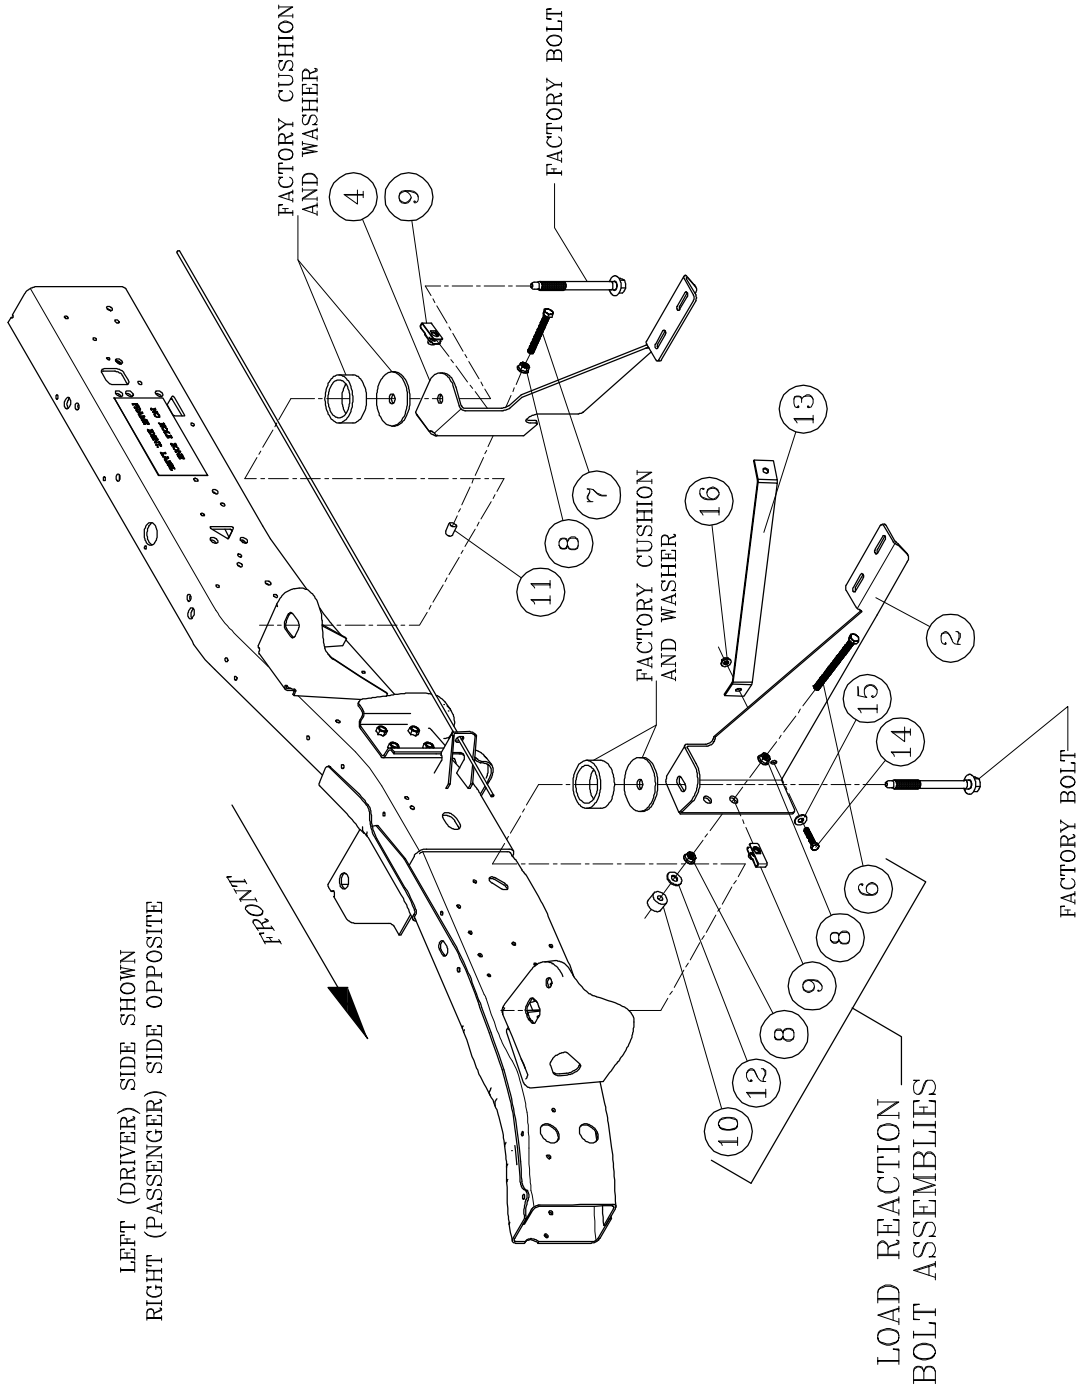

fig.1
4. INSTALL A 3/8"-16 SERRATED FLANGE NUT (ITEM #8) ON THE 3/8"-16 X 5" HEX BOLT (ITEM #6) WITH THE FLANGE FACING TOWARD THE END OF THE BOLT AND TURN ON JUST SHORT OF THE HEAD. SCREW THE BOLT INTO THE U-NUT AND WHEN IT COMES THROUGH THE OTHER SIDE START ANOTHER FLANGE NUT FACING THE SAME DIRECTION AS THE FIRST NUT. TURN THE NUT ON UNTIL THERE IS 3/4" PROTRUDING FROM THE FACE OF THE NUT, INSTALL A 3/8" FLAT WASHER (ITEM #12) AND THE .354 X 1.00 X .748 RUBBER WASHER (ITEM #10) INTO THE END OF THE BOLT. ADJUST THE LOAD REACTION BOLT ASSEMBLY SO THAT THE RUBBER CUSHION IS SNUG AGAINST THE FRAME AND TIGHTEN DOWN THE OUTSIDE FLANGE NUT. **(LOAD REACTION BOLT ASSEMBLY)** AS SHOWN IN *fig. 1*.
8. INSTALL A 3/8"-16 SERRATED FLANGE NUT (ITEM #8) ON THE 3/8"-16 X 3" HEX BOLT (ITEM #7) WITH THE FLANGE FACING TOWARD THE END OF THE BOLT AND TURN ON JUST SHORT OF THE HEAD. SCREW THE BOLT INTO THE U-NUT AND WHEN IT COMES THROUGH THE OTHER SIDE, INSTALL A .364 X .625 CAP PLUG (ITEM #11) ON THE END OF THE BOLT. ADJUST THE LOAD REACTION BOLT ASSEMBLY SO THAT THE RUBBER PLUG IS SNUG AGAINST THE FRAME AND TIGHTEN DOWN THE OUTSIDE FLANGE NUT. **(LOAD REACTION BOLT ASSEMBLY)** AS SHOWN IN *fig. 1*.